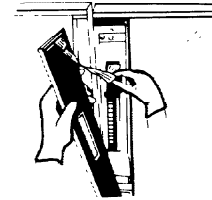

FIGURE 7
3. Lift door trim up and pull electronic strip out of connector as shown in Figure 7.